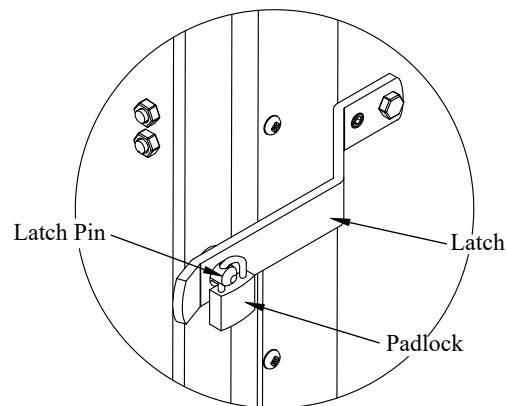

Figure 22: Padlock location.
9. **Lock** the padlock through the hole in the latch pin (Figure 22).